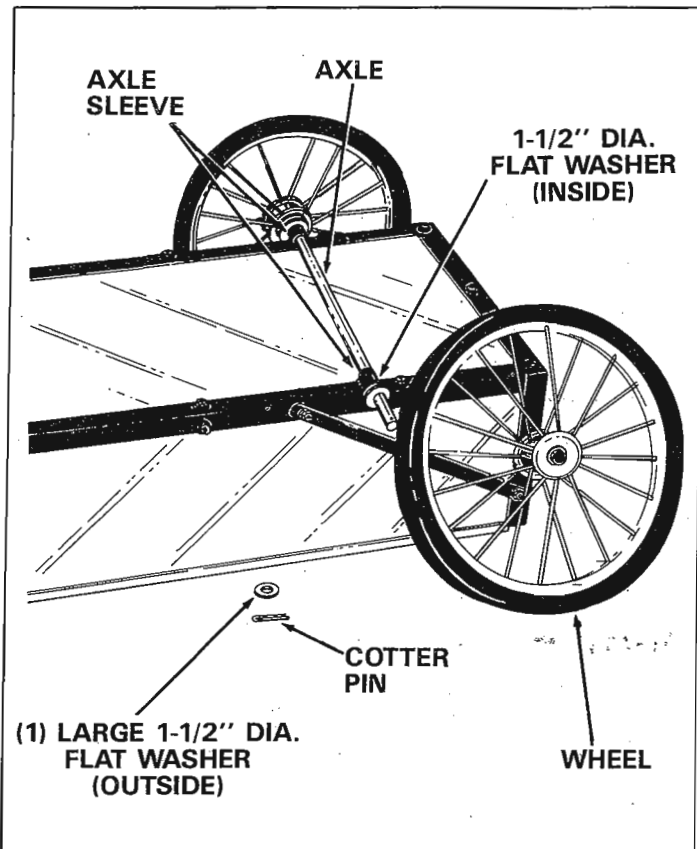

FIGURE 11.
6. Insert axle through axle sleeves as shown in figure 11 on page 6. Tighten all nuts securely.
22. Place one 1-1/2" dia. flat washer on axle, then wheel, one more large flat washer and secure with cotter pin. See figure 11 and note below. Repeat step for other wheel.